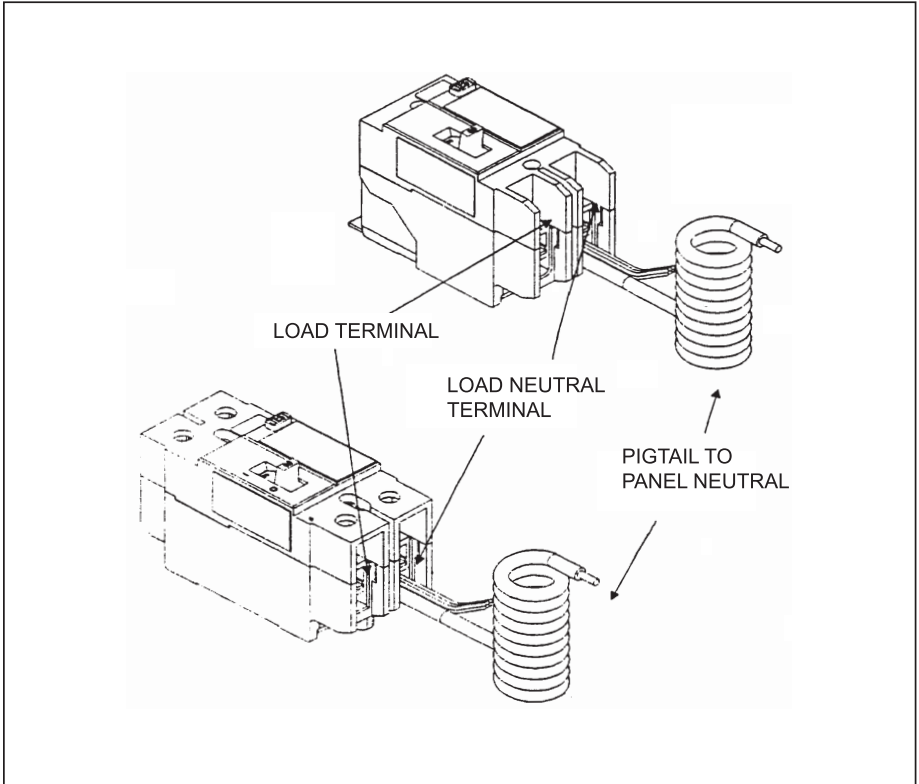

Figure 1. Ground Fault Circuit Breaker Connection Diagram.
4. Bolt the ground fault circuit breaker into the desired pole position (See Fig 1).